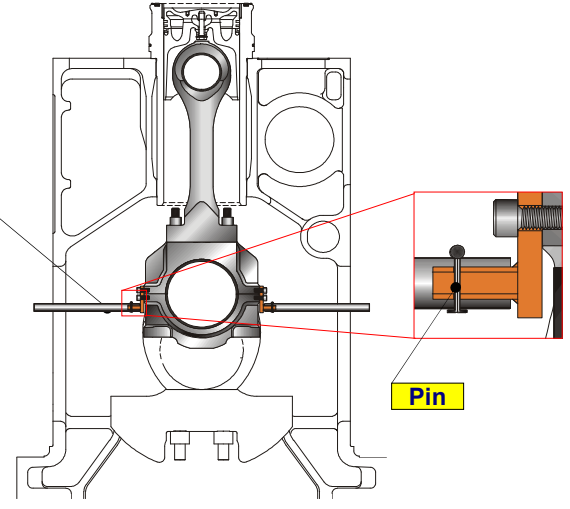

Fig. 2 Mounting of handling pipes
- Install handling pipes on supports and insert locating pins in pipes as shown in fig. 2.